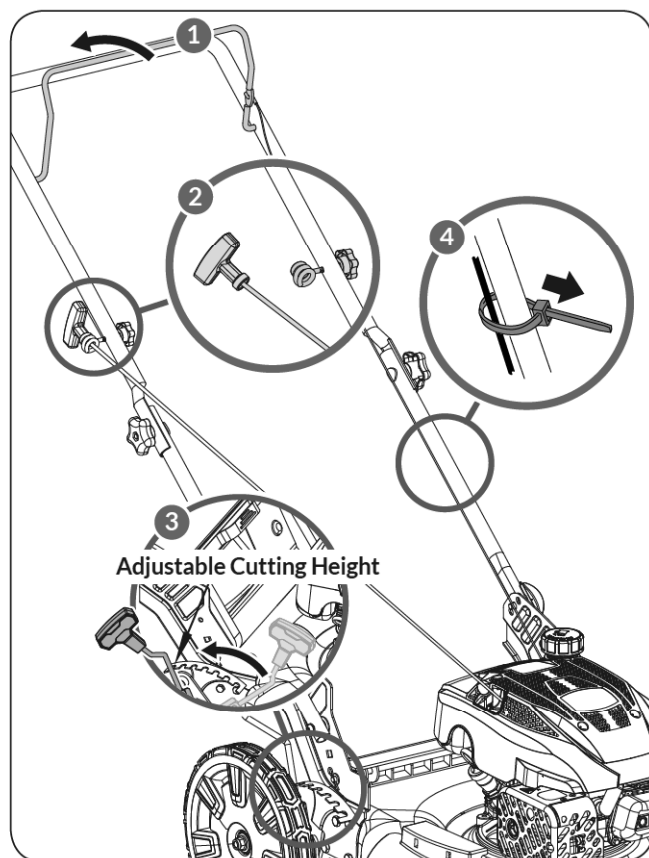

Figure 3
1. Hold the engine start/stop control lever against the upper handle. (See **Figure 3, illustration 1**)
2. Slowly pull starter rope handle from engine and slip starter rope into the rope guide. (See **Figure 3, illustration 2**)
4. Move the cutting height adjustment lever to the position corresponding to the desired grass height. (See **Figure 3, illustration 3**)
5. Use cable tie to secure engine stop cable. (See **Figure 3, illustration 4**)